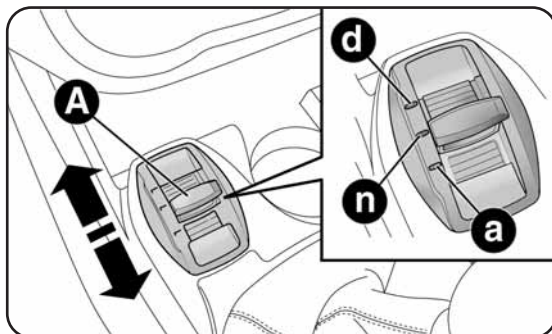

fig. 70
This device allows three different driving modes to be selected by operating lever A-fig. 70 on the central tunnel.
Lever A-fig. 70 is a one-way switch, i.e. it always remains in the central position. The selected driving mode is indicated by the corresponding LED coming on in the panel and by an indication on the re-configurable multifunction display, as illustrated below:
Move lever A-fig. 70 upwards (to the letter “d”) and hold in this position for 0.5 seconds until the corresponding LED lights up or the word “Dynamic” appears on the display (see diagrams). Up-on release, lever A returns to the central position.
Move lever A-fig. 70 downwards (to the letter "a") and hold in this position for 0.5 seconds until the corresponding LED lights up or the word "All Weather" appears on the display (see diagrams).
- In the event of system failure or a fault with lever A-fig. 70, no driving modes can be selected. The display will show a warning message.
To disengage "All Weather" mode and return to "Normal", carry out the same procedure described for "Dynamic" mode, moving lever A-fig. 70 to "a".